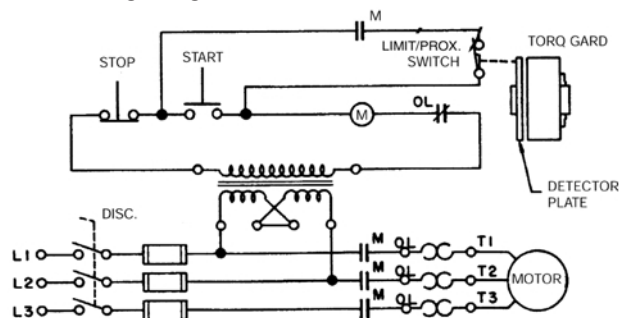

Figure 3
**Note:** Refer to Figure 3 "Typical Wiring Diagram". Limit/prox. Switches are available with additional contacts to further actuate warning alarm systems.